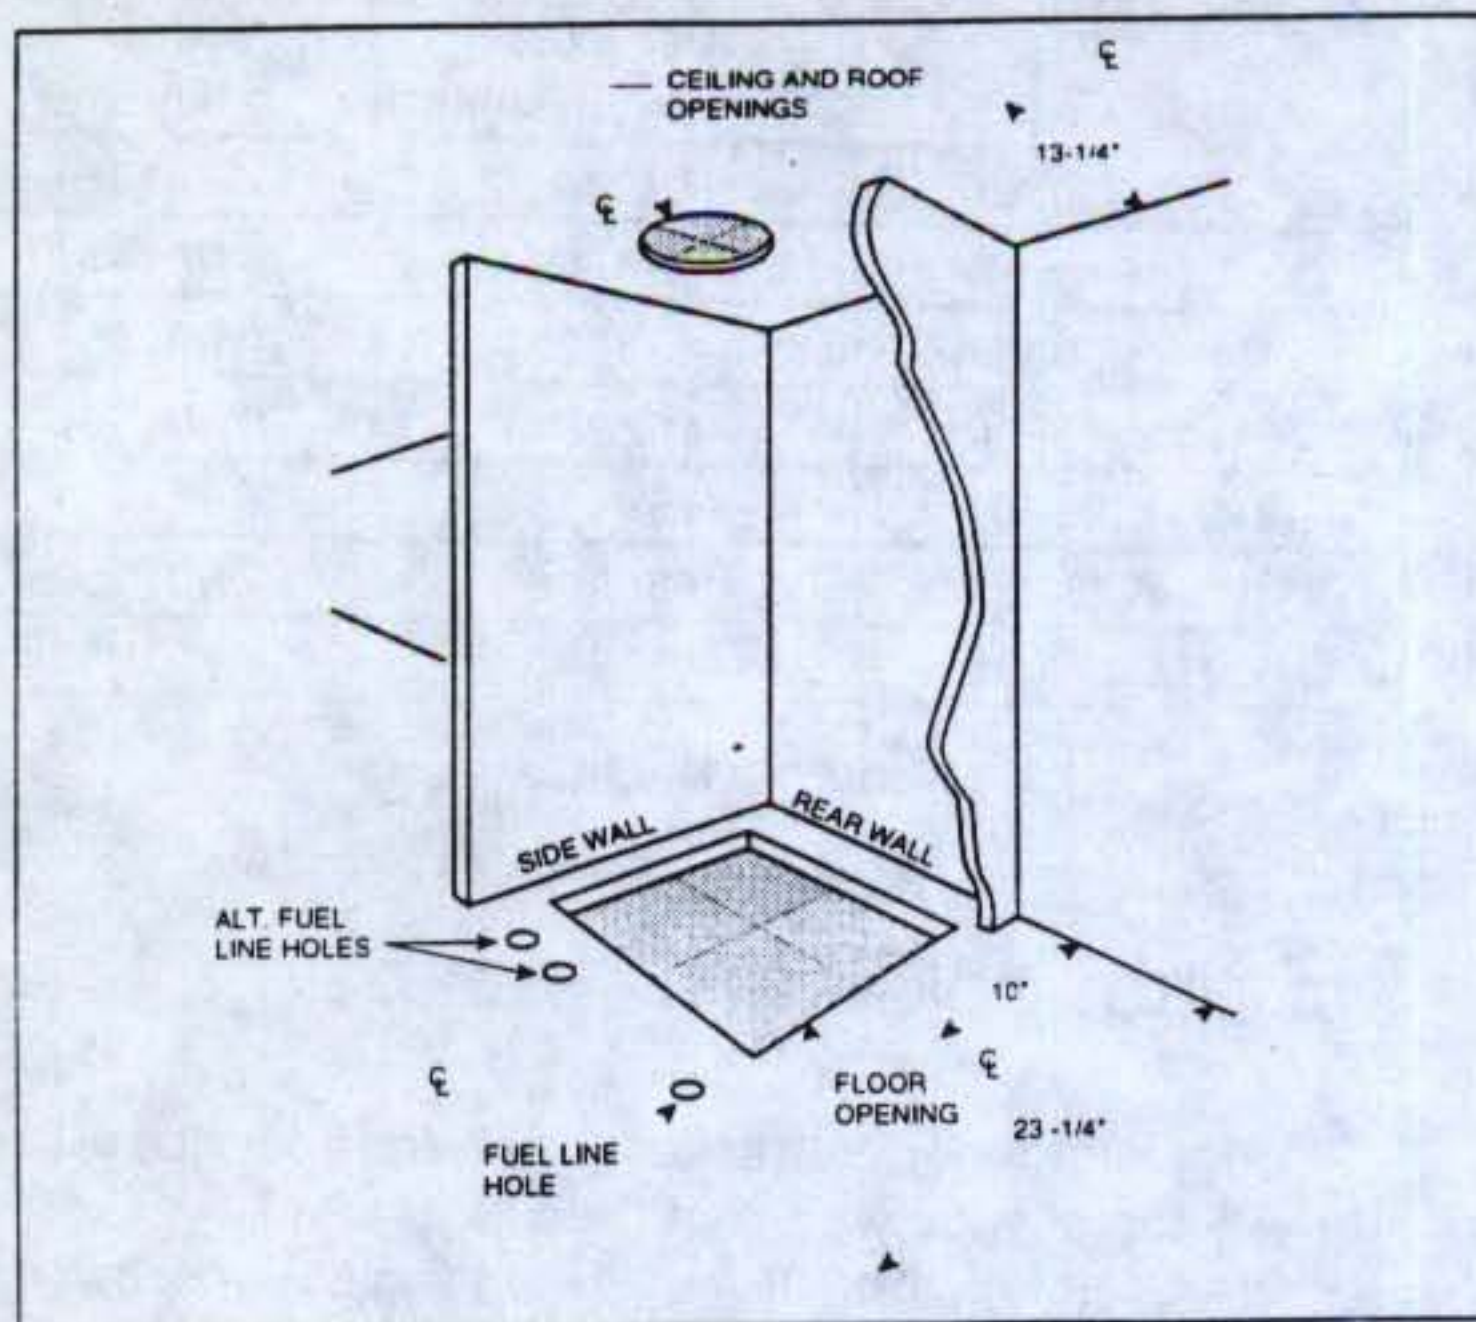

Figure 13. Closet or Alcove
Required floor, ceiling, and roof cutout openings must be carefully located to avoid misalignment of the furnace and Roof Jack (see Figures 13 & 14). Installation procedures are suggested for typical furnace installations and need not be followed in the exact listed sequence.
- Determine center of closet or alcove (Figure 13).
- Locate center of fuel line hole, measured 23-1/4" from the rear wall and 6-5/8" to the left of center of the floor cutout (See Figure 13) or 5-1/4" to the left of center of the floor cutout, or for entry through right-side of furnace measured 9" to the right of center of the floor cutout.